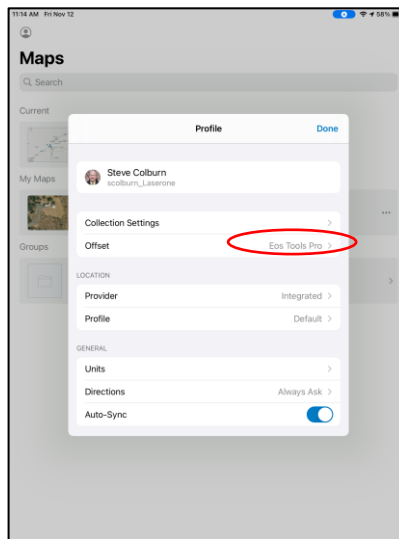

Figure 5
5. Start Field Maps and navigate to the **Profile/Collection Settings/Offset** pull-down list and select the Eos Tools Pro app (Figure 5)